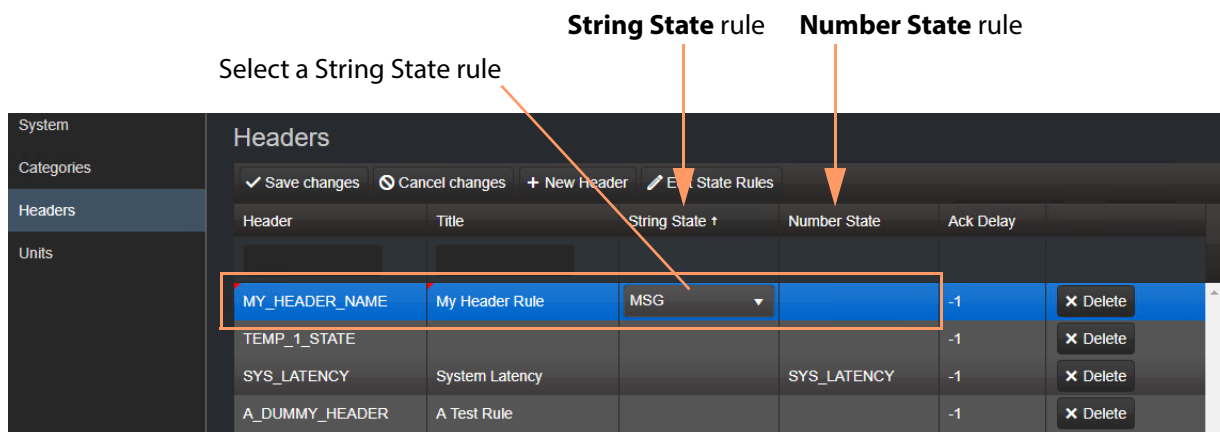

Fig. 2-23: Select a State Rule to Use (String or Number)
- 5 Select a **String State** rule to use (and/or a **Number State** rule). See Figure 2-23.